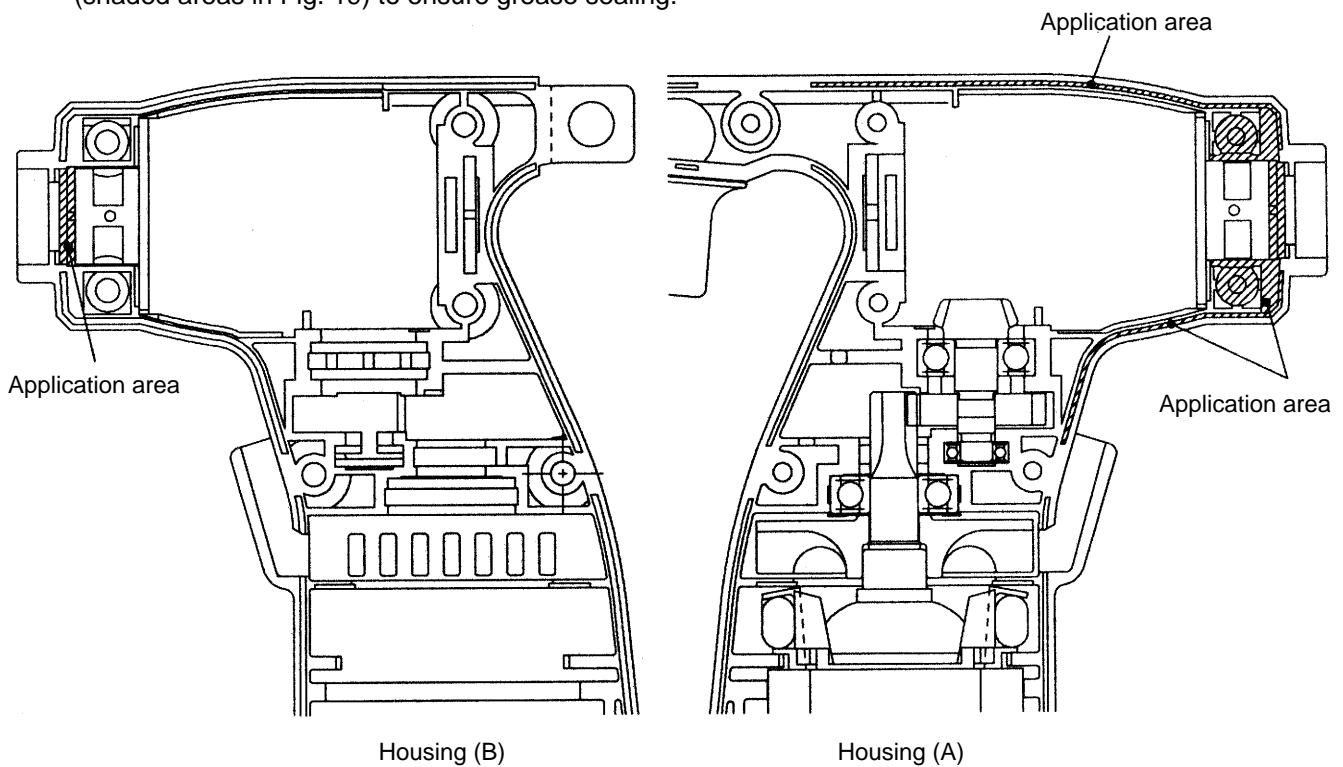

Fig. 19
(b) When replacement of Housings (A) and (B) is not required, apply silicone rubber (ThreeBond 1221) (Code No. 306927) to the Oil Seal 12 x 18 x 3 [22] and the spigot joint section (projection) of Housing (A) (shaded areas in Fig. 19) to ensure grease sealing.